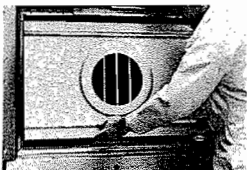

Fig. 8
4. Remove aluminized steel *back blower baffle panel* by lifting straight up, then pulling forward and out. Tilt slightly from left to right to clear side brackets as shown in Fig. 8. Discard this blower baffle panel.